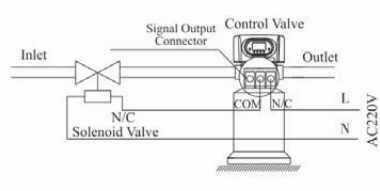
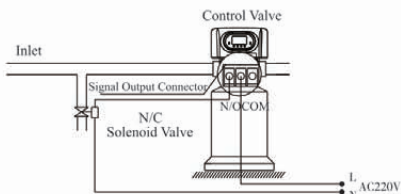

Figure 3-2 Wiring of Solenoid Valve on Inlet
Figure 3-3 Wiring of Pressure Relief Port
② Control Inlet Solenoid Valve (Set b-02)
**Instruction:** When inlet pressure exceeds 0.6MPa, install a solenoid valve on inlet. Control mode is b-02. Pressure is relieved when valve switching, the wiring refers to Figure 3-2. As Figure 3-3 shows, it also can use the pressure relief port to work.